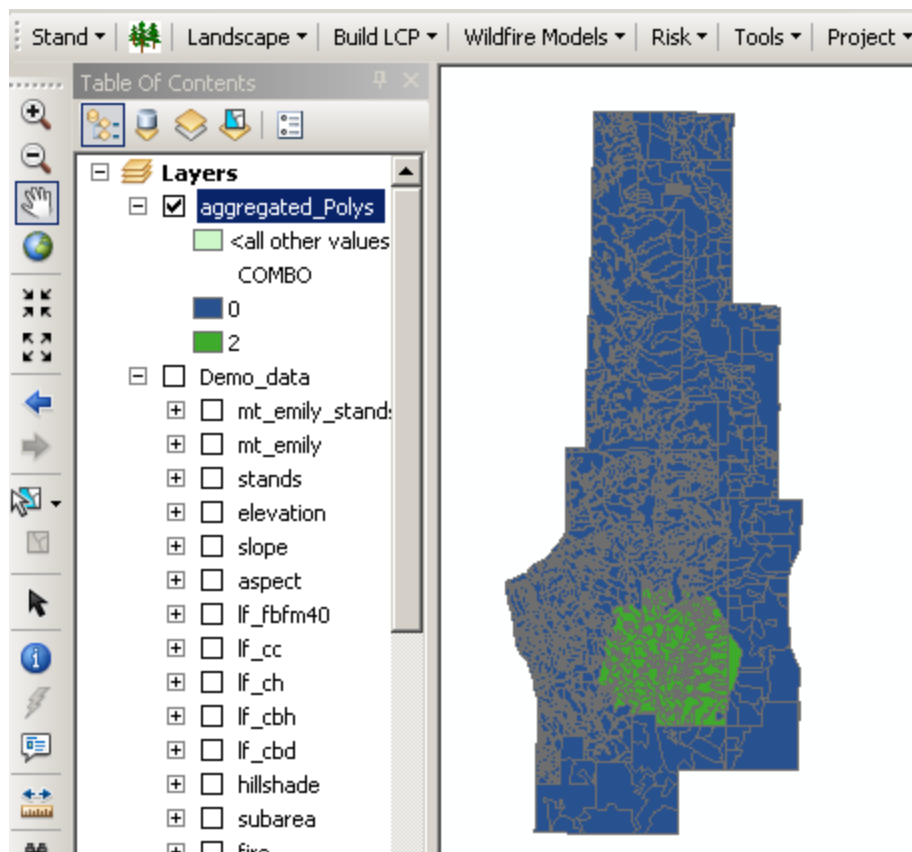

Figure 5-17—The spatial solution for the aggregated run.
- Click **OK** to apply the changes (fig. 5-17).
Notice the differences between the two solutions in figures 5-17 and 5-20. The general treatment area is the same because that is where the concentration of large trees is. The aggregated solution creates one large contiguous treatment patch where the solution suggests treatments for 4,138 ac and contains 75,174 large trees. The large trees contained in the aggregated solution include all trees in the patch regardless of treatment preference. On the other hand, the dispersed solution suggests treatments for 4,200 ac and contains 129,178 large trees because it is able to disperse the treatments to include all the stands with the highest density of large trees.